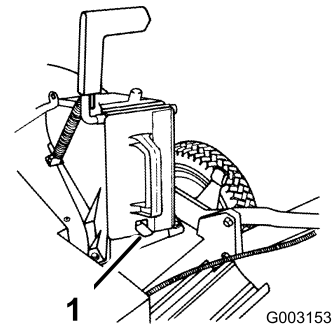

Figure 8
3. Push the plug all the way in until the spring clip on the bottom of the plug clicks into place, locking the plug securely into the discharge tunnel (Figure 8).